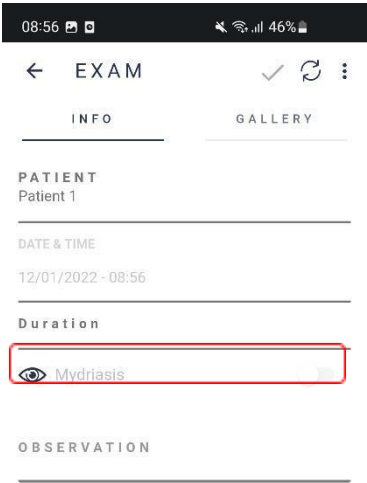
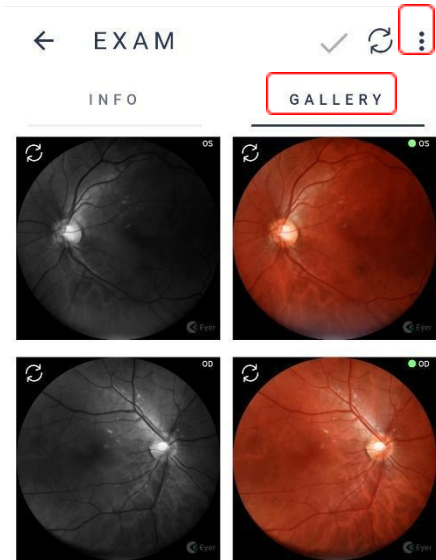
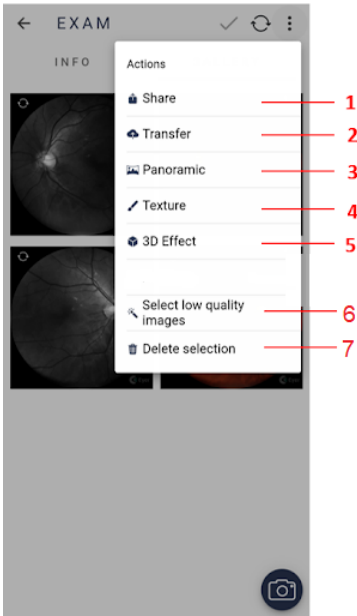
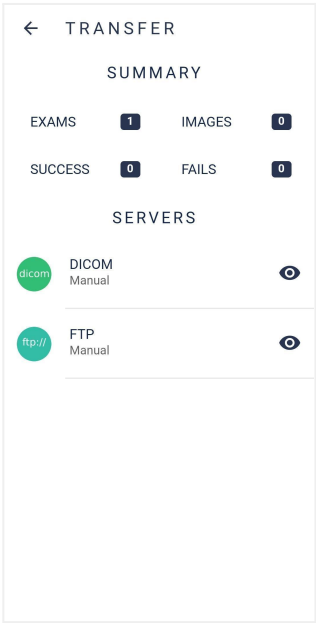

Figure 42: Information to create a new exam
Figure 57: Images captured during exam
Figure 58: Checkbox for images
Figure 59: Screen for sending image via DICOM/FTP
Select icon  in “info” or “exams” tab, figure 41, and the screen in figure 42 displays. “Info” tab contains the patient’s name, date, and time of exam (click in any section field to edit), a field to write notes and a selector switch for patients with mydriasis. Icon  opens the image capture screen.
Select icon , figure 42, and a screen, figure 43, opens. Its icons are specified according to their functions.
Select the tab “Gallery”, figure 42, to view captured images, figure 57.
Click the icon  , figure 57 to share images, send manually via DICOM/FTP/SMB; click the icon, figure 57, to create panoramic images, texture or 3D effect and/or remove images in bulk. An action box opens, figure 58.
- 2. **Transfer:** Screen which presents a summary of exams and images to send, with success and failure statistics and the available server list, figure 59.
Click the icon  , then “transfer”, figure 58, then select preferred server, figure 59.